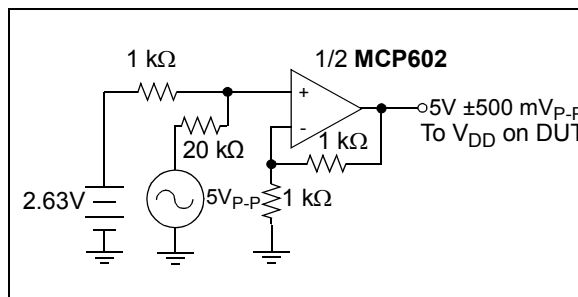

FIGURE 1-4: Power Supply Sensitivity Test Circuit (PSRR).
Note 4: $V_{DD} = 5V$ DC ± 500 mV_{P-P} @ 1 kHz, see test circuit Figure 1-4.
4: $V_{DD} = 5V$ DC $\pm 500\text{ mV}_{P-P}$ @ 1 kHz, see test circuit Figure 1-4.
- 4: $V_{DD} = 5V$ DC ± 500 mV_{P-P} @ 1 kHz, see test circuit Figure 1-4.